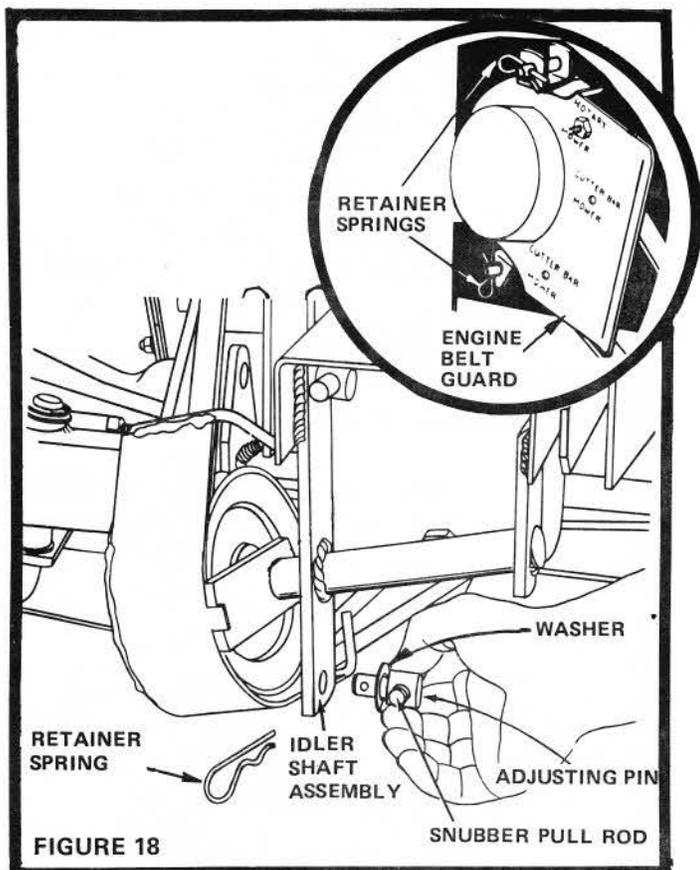
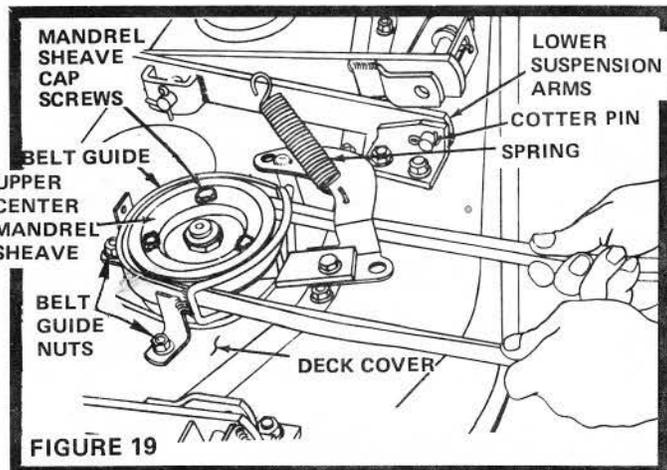
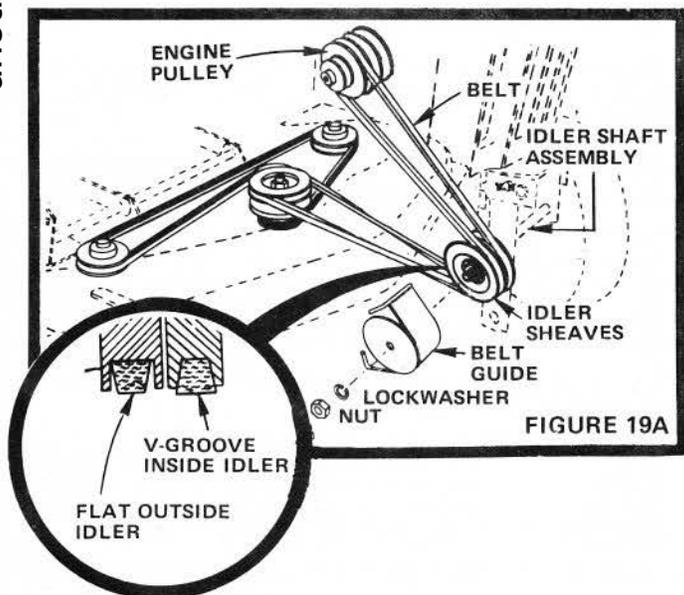

FIGURE 18
FIGURE 19
FIGURE 19A
(Refer to Fig. 18). Remove Retainer Spring from Adjusting Pin on Snubber Pull Rod in Idler Shaft Assembly. Remove Adjusting Pin from hole.
1. Unhook Spring from rear belt guide bracket of Belt Guide (Fig. 19).
2. Remove Belt Guide at center mandrel by removing three (3) Nuts and Lockwashers.
3. Remove Nut and Lockwasher from Idler Shaft Assembly and remove Belt Guide (Fig. 19A). Also remove Engine Belt Guard and Belt (Fig. 18).
4. Install new Belt on Idler Sheaves and on Engine Pulley. NOTE: See Fig. 19A for proper way of installing Belts on Idler Sheaves. Backside (outside) of Belt must be placed in flat (outside) Idler. Belt must be placed in largest groove of Engine Pulley. Replace Belt Guide securely.
5. Replace Engine Belt Guard (Fig. 18).
6. Replace Belt Guide and snubber at center mandrel and adjust so that there is 1/16 to 1/8 inch clearance between it and the Sheave. Replace Spring (Fig. 19). Adjust drive belt and snubber refer to page 4, steps 1 thru 8.
2. Unhook Spring from rear of Belt Guide. Remove Belt Guide at center mandrel by removing the 3 Belt Guide Nuts, Lockwashers, and Flat Washers (Fig. 19).